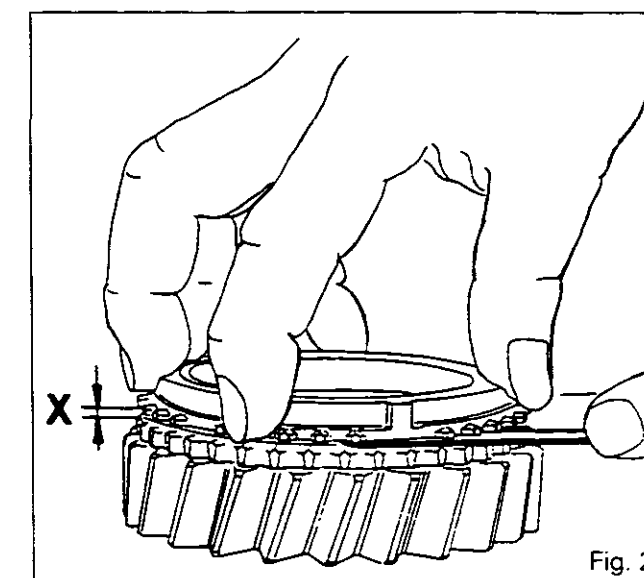

Fig. 2
Using a set of feeler gauges, measure dimension X at several locations (Fig. 2). If this dimension is less than 0.8 mm, fit a new synchro brake (B), after checking the cone. When new synchro brakes are fitted, measure dimension X which must be within the following tolerances:
- 1st/2nd speed synchro (11) = 0.9 to 1.5 mm,
- 3rd/4th speed synchro (23) = 0.9 to 1.5 mm,
- Hare/Tortoise synchro (31) = 0.9 to 1.5 mm
6. Remove the eight bolts (30) (Fig. 2). Do not remove the bolts (66) with a dimension of 13 mm across flats.